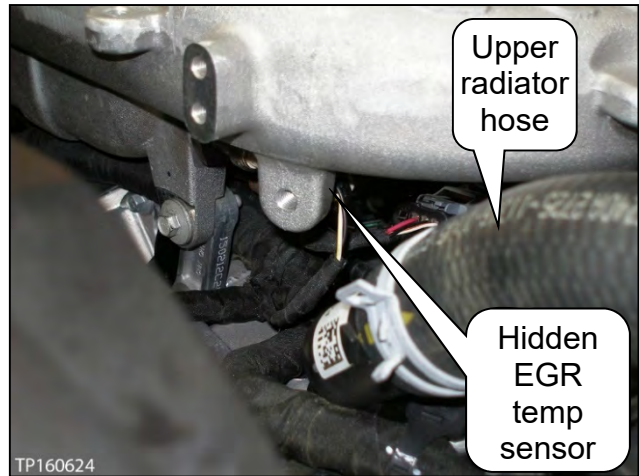
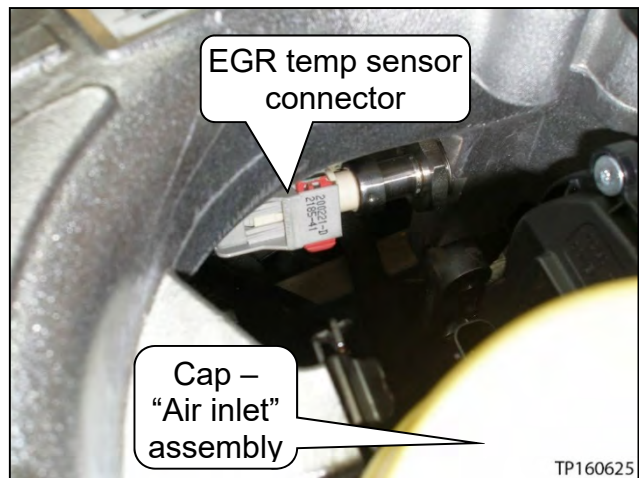

Figure 39
Figure 40
27. Disconnect the EGR temperature sensor connector (see Figure 39 and Figure 40).